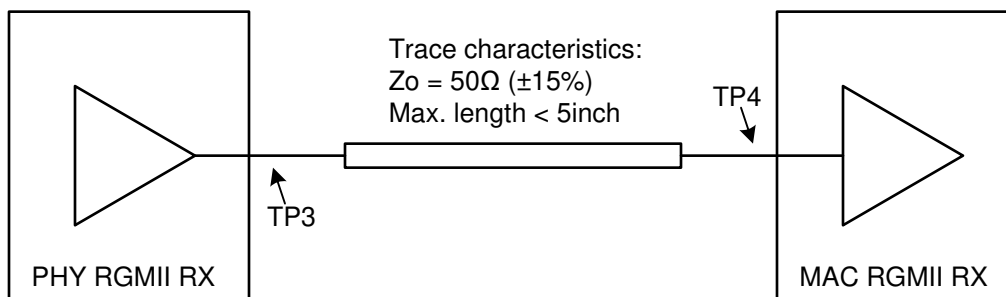

Figure 8-15. RGMII RX Requirements
- No damping resistors should be added at TP3/TP4, in Figure 8-15, as that will impact signal integrity of RX signals.
- Figure 8-15 shows a RGMII interface requirements for RX* signals. MAC RGMII driver output impedance should be 50Ohm+/-20%.
- Signal Integrity at TP3 and TP4, in Figure 8-15, should be verified with IBIS model simulation and ensured conformance to following requirements: